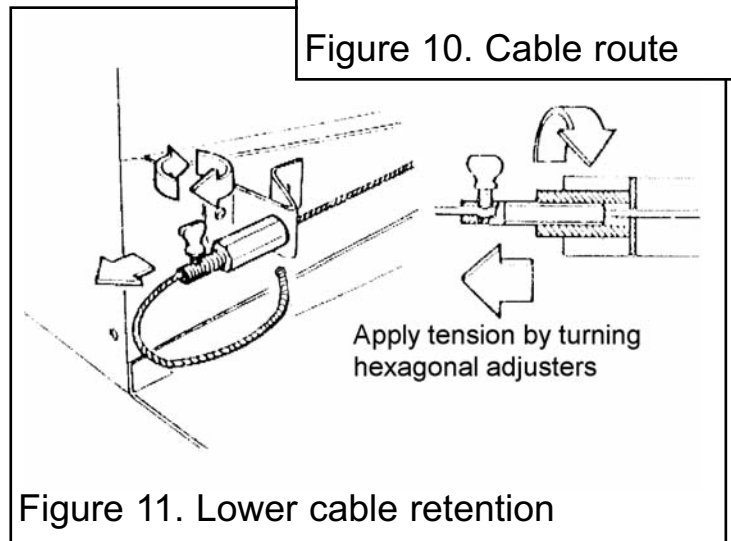

Figure 11. Lower cable retention
9. Pull each cable taut. Push the cable retainers hard up against the "V" brackets. Tighten the screws in the retainers so that they clamp the cables in position. Apply tension to the cables by turning the hexagonal adjusters by hand (See figure 11).